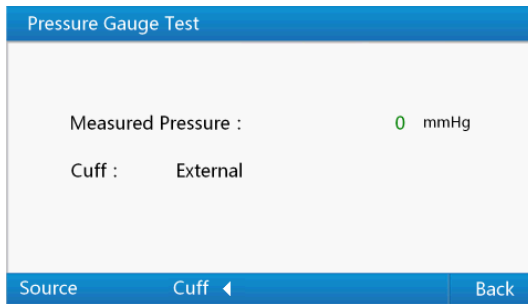

Figure 13 Pressure gauge test interface
- 1) Use up or down key in "Pressure Test Menu" to select "Pressure Gauge", press " Enter Key" to "Pressure Gauge Test" interface shown as Figure 13.As a shortcut, you can use number key "3" to enter this interface quickly.The value displayed in this interface is the static pressure produced by external equipment. In this interface, Pressing "Return Key "can get back to "Pressure Test Menu",and Pressing "Enter Key" can go to "Pressure Source Test" interface.